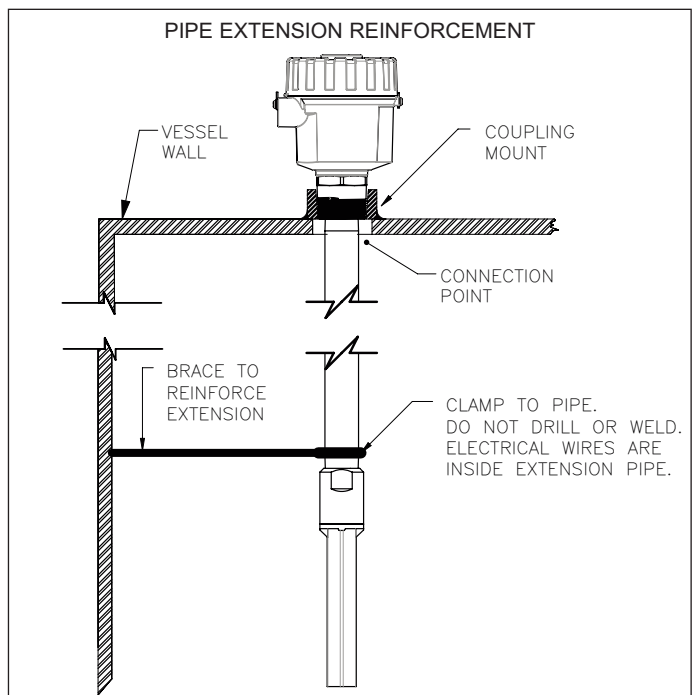

Figure 6
**Pipe Extension Reinforcement:** (See Figure 6)